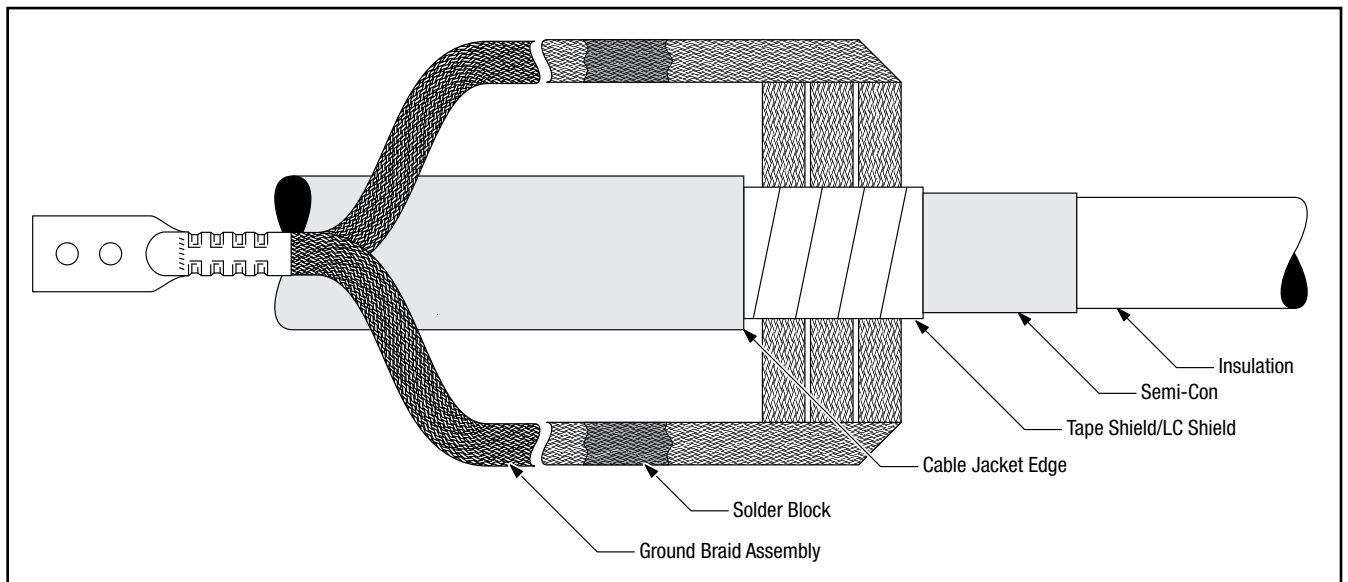

Figure 3
- 2.2 Select the preformed ground braid assembly from the kit. Pass the end of the cable through the ground braid assembly loop, and position the ground braid assembly around the tape shield shown. (*Figure 3*)